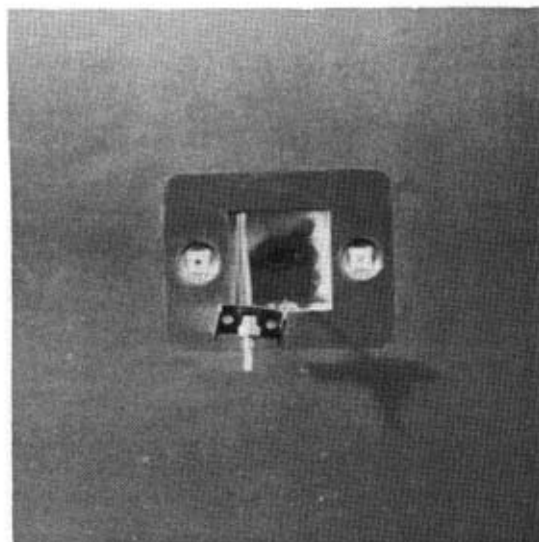

FIG. 6
8. Remove the two (2) hex nuts securing probe bracket to cabinet side and save for reuse.
10. Remove probe and bracket from cabinet side (See Figure 6).
13. Insert new probe assembly into bracket and replace the two (2) hex nuts securing bracket to cabinet side.
18. Replace the two (2) screws securing access plate to cabinet side.
19. Replace the two (2) screws securing power board bracket to escutcheon.
20. Replace the six (6) screws securing top to side panels and place unit back into service.